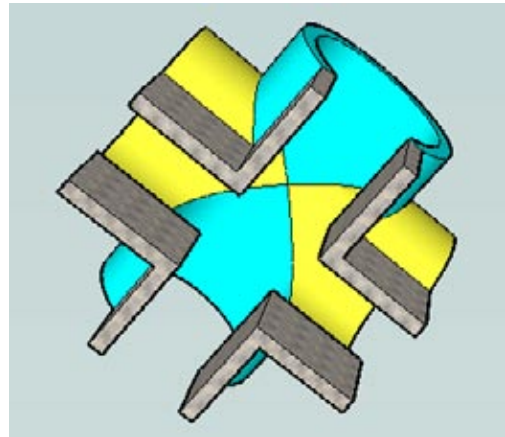

Figure 3-14
4. Orbit so that you are looking up at the ceiling. Erase all of the edges within areas of the same color (Figure 3-14).